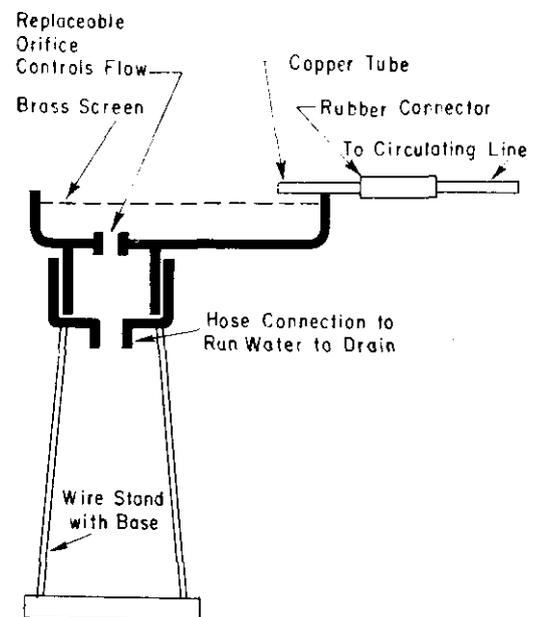

Fig. 5 - Cross Section of a Simple Manufactured Bleed-off Regulator
8.03 Fig. 5 shows a commercially manufactured device for regulating the amount of bleed-off. This type device is located in the bottom of the cooling tower or evaporative condenser. Water should overflow the top cup whenever the circulating pump is running. The orifice can then be changed to give the desired rate of bleed-off. This method would be used where the bleed-off rate is less than  $\frac{1}{2}$  gallon per minute. Depending upon the condition of the water, this would be used for systems of about 70 tons or less.